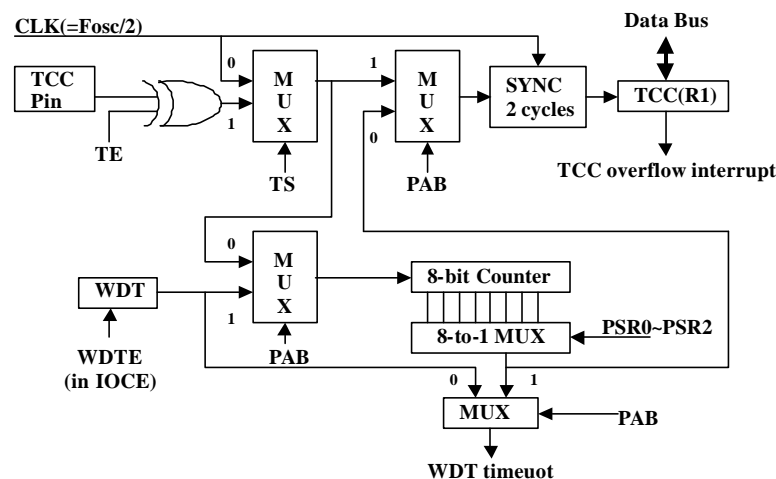

Fig. 6 Block Diagram of TCC and WDT
An 8-bit counter is available as prescaler for the TCC or WDT. The prescaler is available for either the TCC or WDT only at any given time, and the PAB bit of CONT register is used to determine the prescaler assignment. The PSR0~PSR2 bits determine the prescale ratio. The prescaler is cleared each time the instruction is written to TCC under TCC mode. The WDT and prescaler, when assigned to WDT mode, are cleared by the WDTC or SLEP instructions. Fig. 6 depicts the circuit diagram of TCC/WDT.
- R1 (TCC) is an 8-bit timer/counter. The TCC clock source can be internal clock or external clock input (edge selectable from TCC pin). If TCC signal source is from internal clock, TCC will increase by 1 at every instruction cycle (without prescaler). Referring to Fig. 6 below, clock category ($CLK = F_{osc}/2$ or $CLK = F_{osc}/4$) is dependent on the CODE Option bit CLKS status. $CLK = F_{osc}/2$ if CLKS bit is "0", and $CLK = F_{osc}/4$ if CLKS bit is "1". If TCC signal source is from external clock input, TCC will increase by 1 at every falling edge or rising edge of TCC pin.